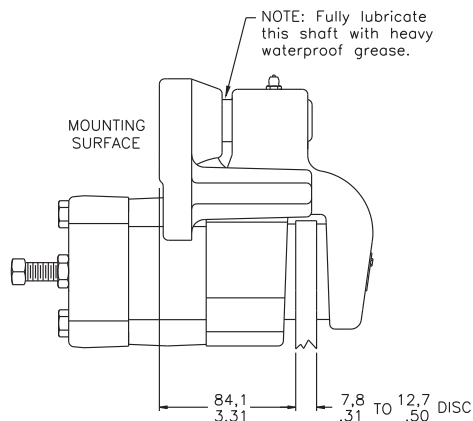

FIGURE 1
- Figures 1 and 2 illustrate the two methods of mounting this series of brakes. See mounting bracket shaft grease note. The mounting surface to disc face dimension must be closely held as this provides for the required caliper movement. Use shims as needed to obtain the proper distance.
Dimensions shown in Figures 1 and 2 are typical for all models. Mounting surface to disc face dimension is typical of rectangular and triangular brackets. Mounting bolts not included.